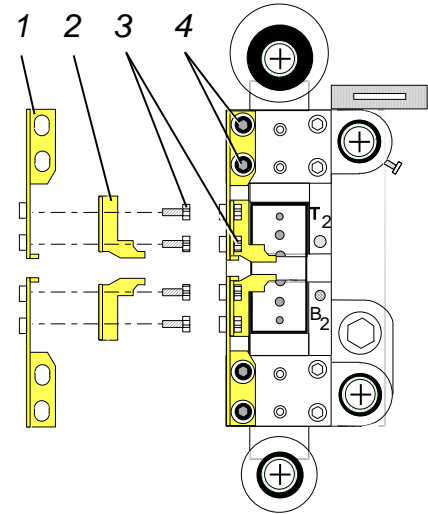

Figure 10 Ejector Brackets
Two sets of ejector brackets are factory mounted on die Station 2 (Figure 10).
- a. Loosen screws (Figure 10, Item 4).
- a. Loosen screws (Figure 10, Item 3).